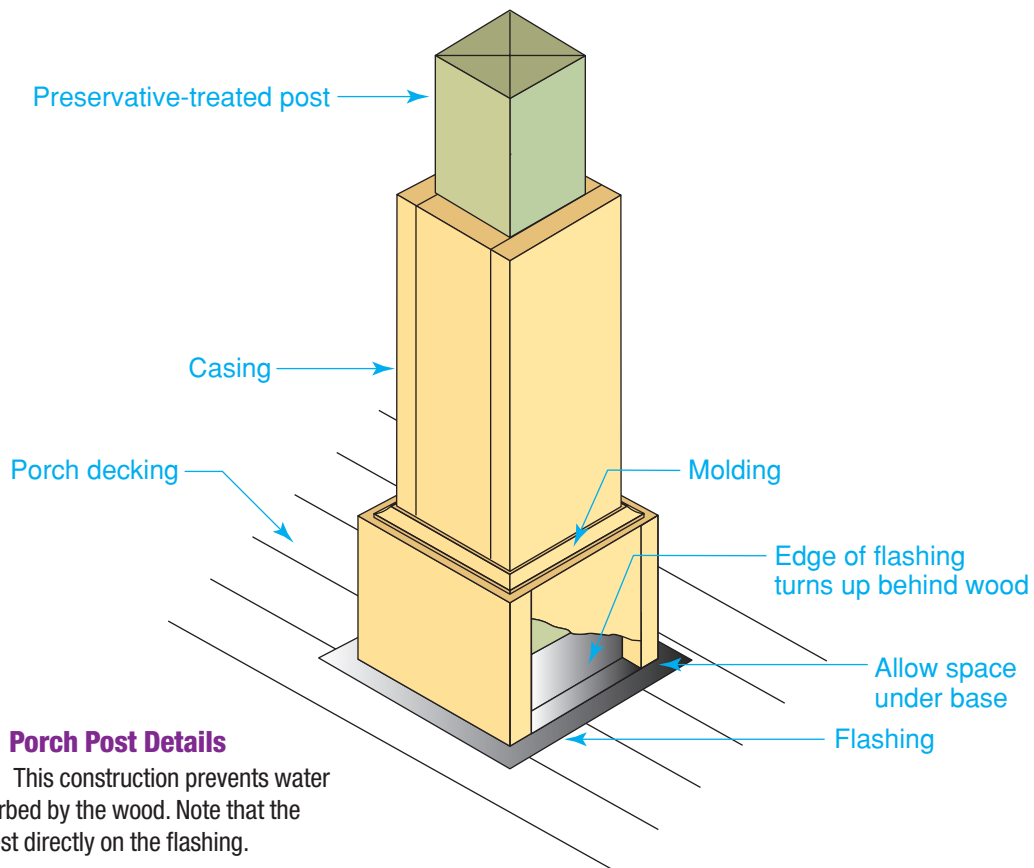

Figure 35-16 Porch Post Details
- Porch columns should be designed to avoid any details or joints that might trap water. Treated structural posts are often cased with untreated finish lumber for better appearance, as shown in **Figure 35-16**.